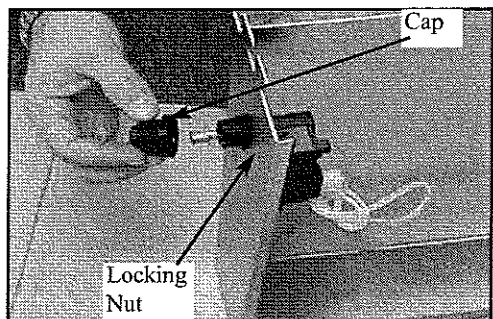

Fig. 9
4. Re-insert the battery, positive side first, and spring assembly and attach the ignitor cap. (See Fig. 9)